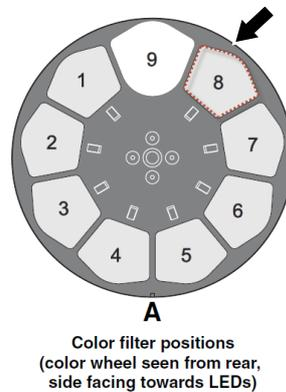

Figure 2: Position of the shutter flag
2. See Figure 2. The shutter flag must be mounted in slot 8 on the color wheel. The color wheel is shown from the rear (the side facing the back of the effects module, away from the front cover). It will help you identify filter positions if you note the position of the small magnet **A** on the color wheel opposite the open slot.